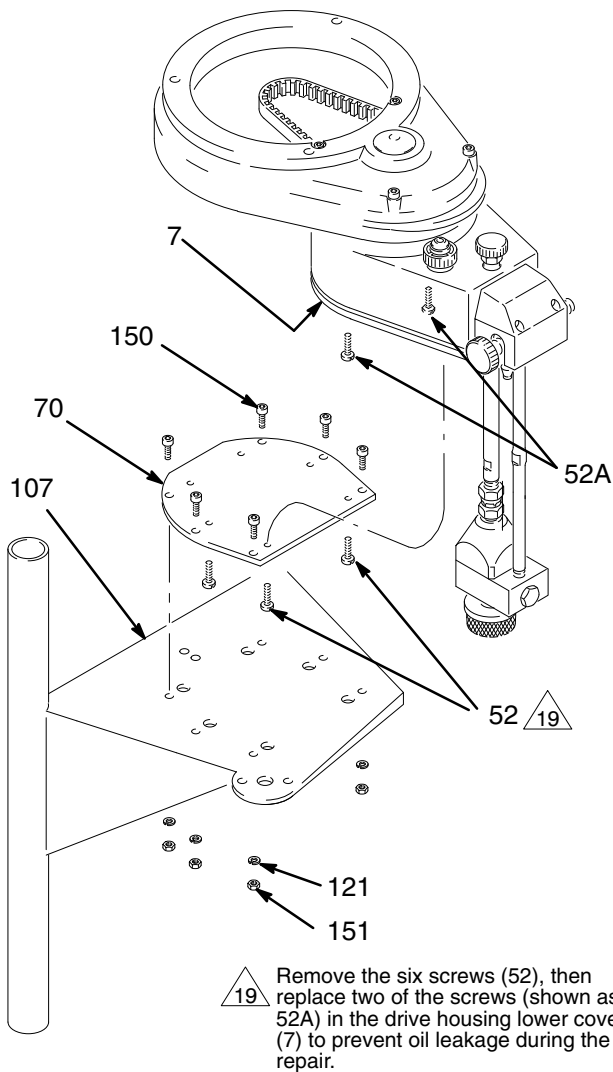

Fig. 32
4. Remove the six capscrews (150), lockwashers (121) and nuts (151) holding the pump assembly to the cart lift bracket (107). See Fig. 32.
6. Remove the six capscrews (52) holding the mounting plate (70) to the drive housing lower cover (7). See Fig. 32.
7. Carefully remove the plate (70) and replace two of the capscrews (52) to prevent the oil gasket (53) from breaking loose and leaking oil. See Fig. 32.